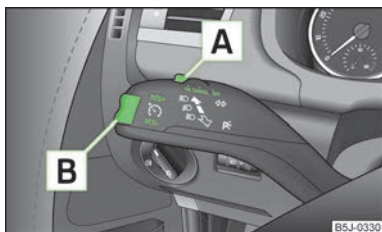

Fig. 87
- Turn the switch **A** » Fig. 87 into the **ON** position.
- Press the rocker button **B** » Fig. 87 on page 87 into the **RES** position.
- The stored speed can be **reduced** by pressing the rocker button **B** » Fig. 87 on page 87 into the position **SET**.
The cruise control system is **temporarily switched off** by pressing the switch **A** » Fig. 87 on page 87 into the spring-tensioned position **CANCEL** or by depressing the brake or clutch pedal.
- Turn the switch **A** » Fig. 87 on page 87 into the **OFF** position.